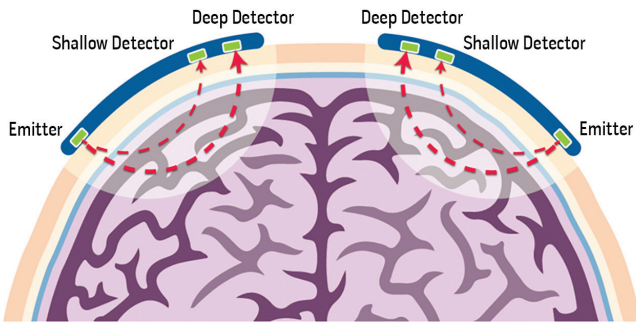

Figure 2: Schematic of an example of a regional oximeter sensor measuring deep tissue oxygenation.
The Masimo O3[®] Regional Oximetry System uses a common emitter and at least two (2) detectors that are spaced apart from each other and are at different distances relative to the emitter. In the case of a two-detector system, as in Figure 2, the detectors may be known as: